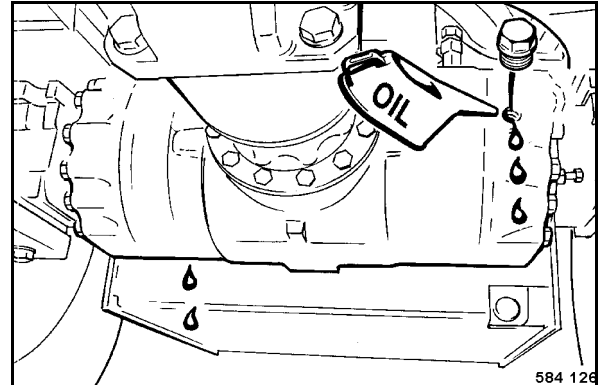

Fig. 130
- Unscrew the oil level inspection plug (Fig. 130) and check the oil level.